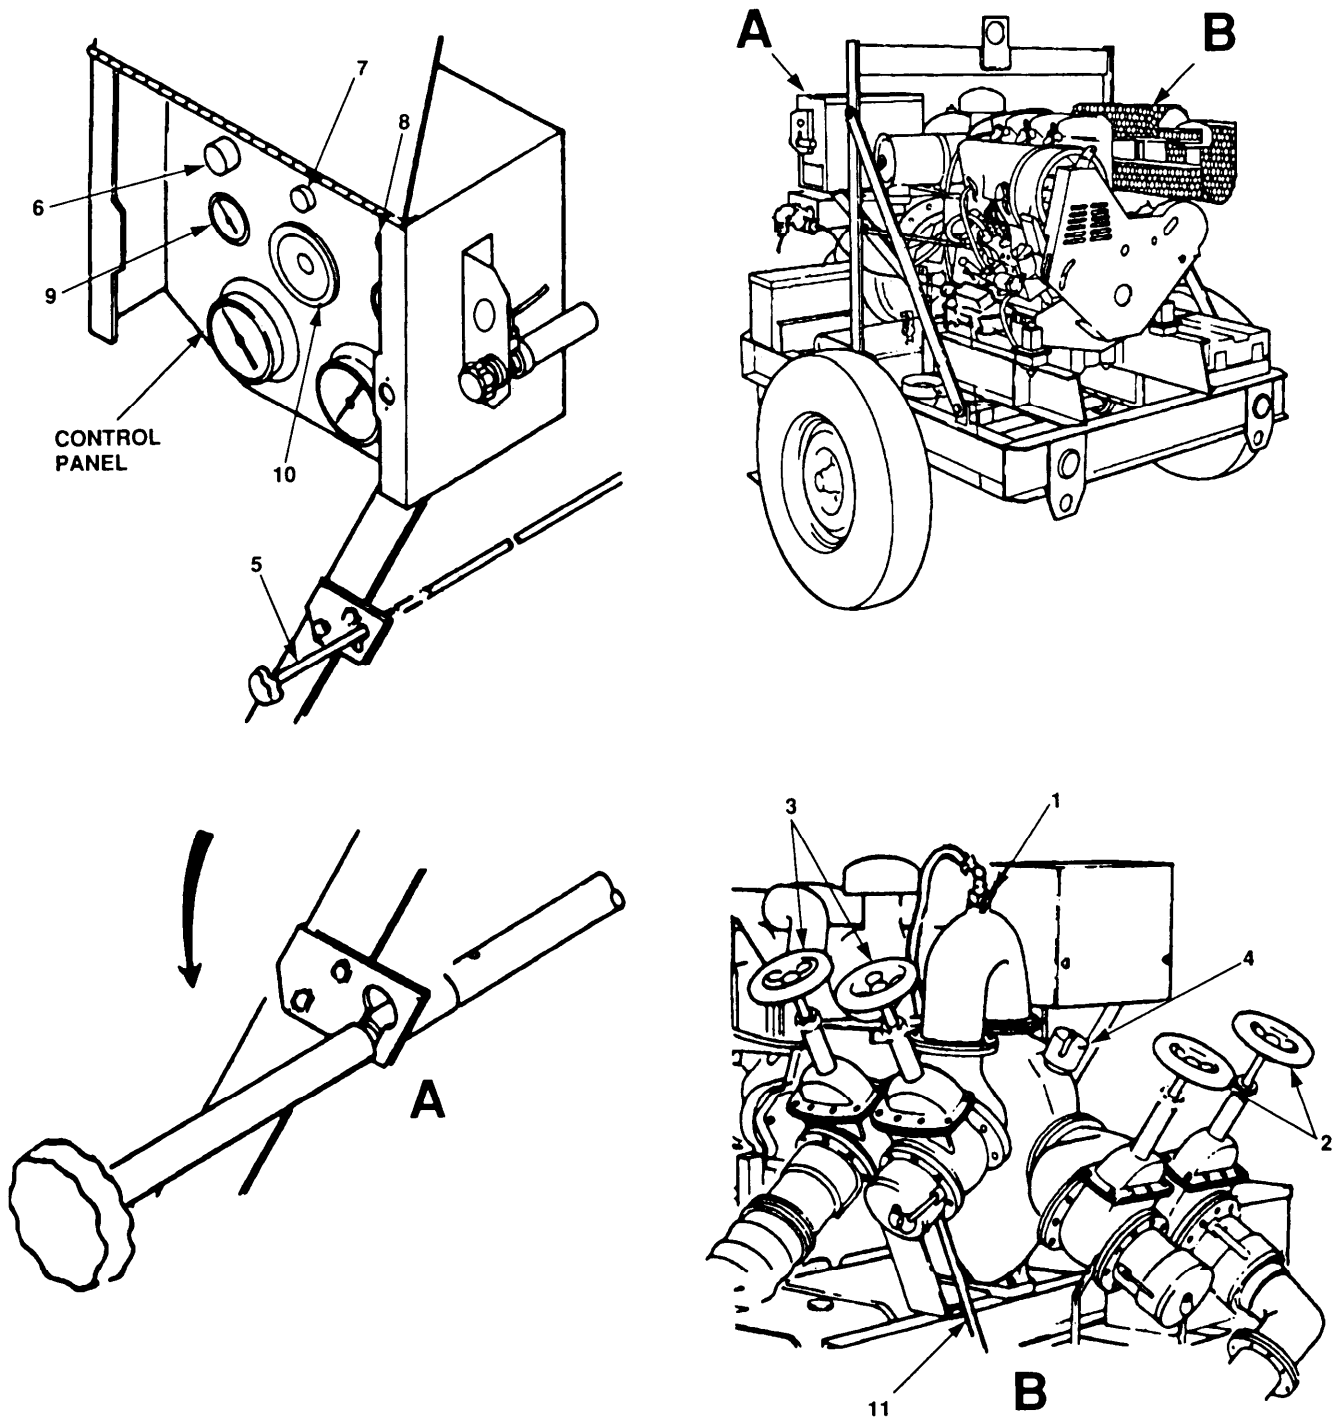

Figure 2-5. Pumping Assembly Operation (non-regulated) .
- a. Open vent valve (figure 2-5, 1) and ensure that all suction valves (2) and discharge valves (3) are closed.
- b. Check pump fuel level by carefully opening camlock levers on priming port cap (4) and raising port cap slightly to see if fuel is discharged from priming port. If fuel is discharged, quickly install priming port cap and place camlock levers in locked position. If fuel is not discharged, remove port cap and add clean fuel of the type to be pumped, until fuel level reaches the top of the priming port.
- c. Install priming port cap (4) and place camlock levers in locked position.
- d. Push and raise throttle control (5) from detent latch, releasing it to the idle position.
- (1) Turn the two fasteners on Control Panel counterclockwise until fasteners release.
- (2) Raise Control Panel cover until retaining holes in two brackets mounted on top of Control Panel align with retaining hole in bracket mounted on cover.
- a. Decrease idle speed to 800 RPM then push and raise throttle control (figure 2-5, 5) from detent to idle speed for two minutes.
- b. Close discharge valves (3) and suction valve (2).
- c. Push in EMERGENCY STOP switch (6).
- (1) Press in on end of quick release pin and remove quick release pin from brackets at top of control panel and cover. Lower control panel cover.
- (2) Turn the fasteners on the control panel clockwise until the fasteners engage.